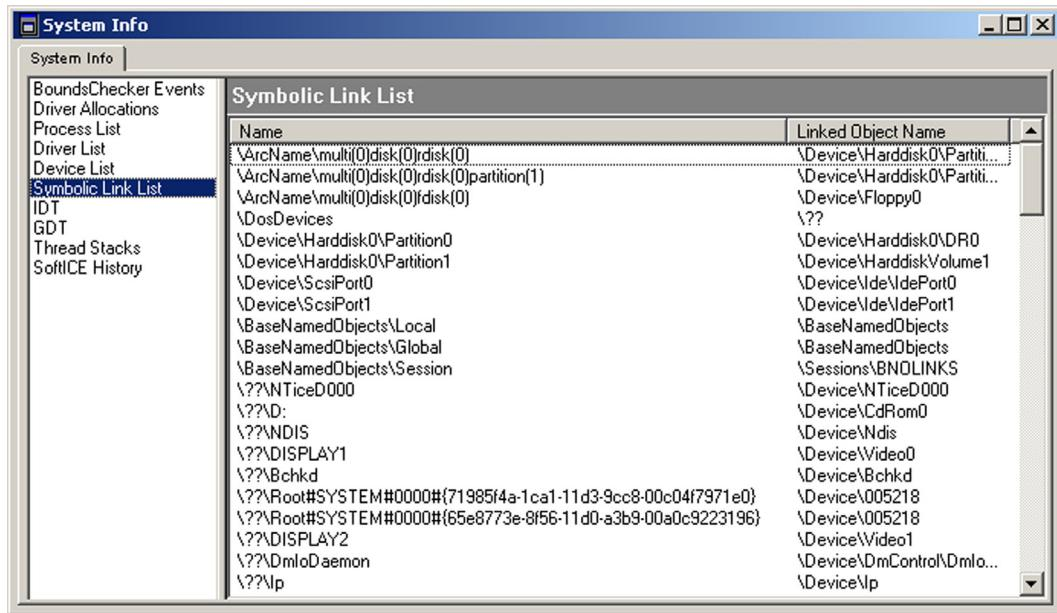

Figure 2-19. Symbolic Link List
**Symbolic Link List** (Figure 2-19) contains a list of the names of every symbolic link object in the system as well as the name of the corresponding object that the link aliases. Table 2-5 on page 44 describes the symbolic link list columns.